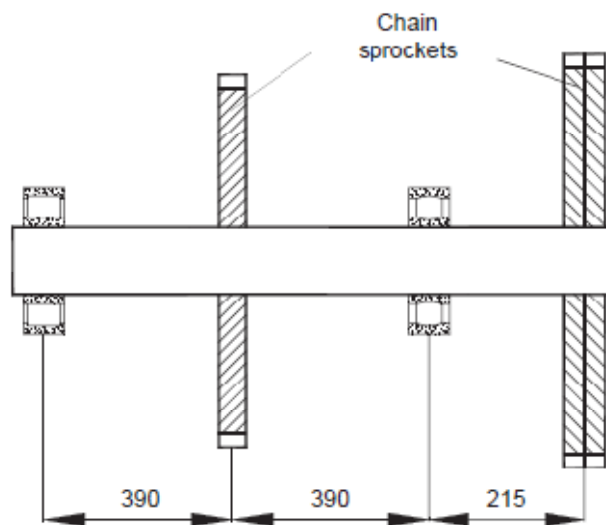

Figure 1
6. Determine the diameter of the drive shaft for a chain conveyor, which has the loading parameters illustrated in Figure 1. A roller chain sprocket of 500 mm pitch diameter, weighing 90 kg will be mid-mounted between two bearings. A 400mm, 125 kg roller chain sprocket will be mounted overhung. The drive shaft is to be manufactured using cold drawn 070M20 steel with UTS 1000MPa, YS 770MPa and Brinell Hardness approximately 220 BHN..The shaft will carry a steady driving torque of 1600 N m and rotate at 36 rpm. A sled runner keyway will be used for the overhung pulley and a profile keyway for the mid-mounted pulley